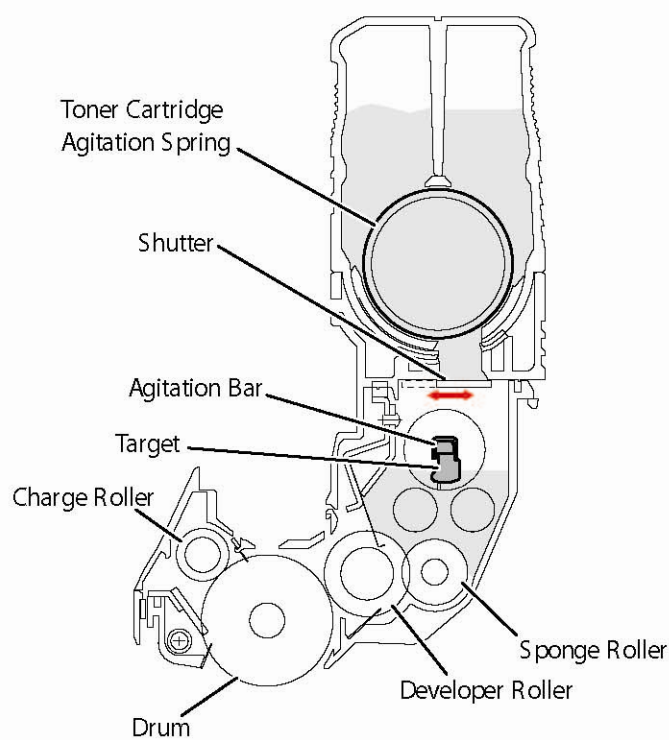

Figure 2
**Figure 2** gives a nice side view breakdown of both the drum unit and the toner tube.